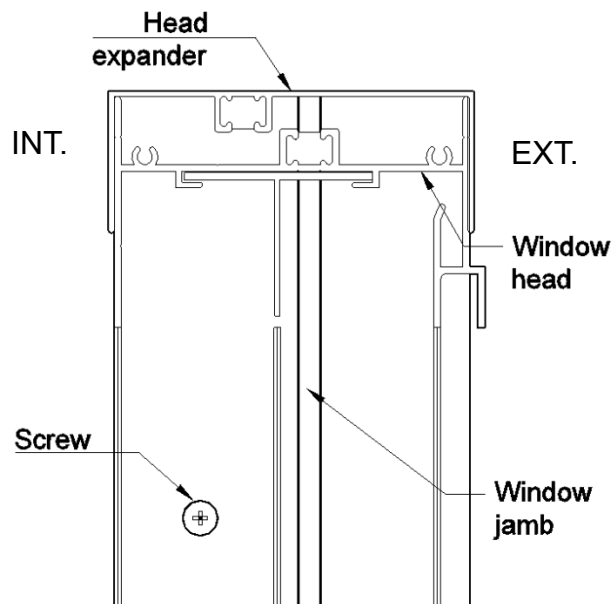

Figure 5: Side View of Jamb on Top
2.4 Fasten the jamb through the installation hole on both sides (refer to figure 5). Notice: do not over tighten the fasteners to distort the frame, and do not drill on the window sill/head to avoid water infiltration.